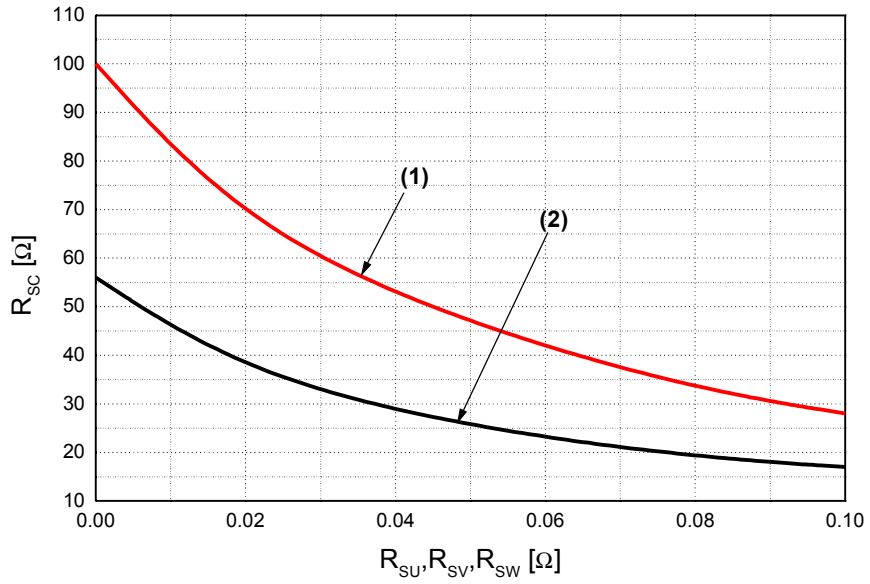

Fig. 7. R_{SC} Variation by change of Shunt Resistors (R_{SU} , R_{SV} , R_{SW}) for Short-Circuit Protection
- Short-circuit current protection is functioning only at the low-sides. It would be recommended that the value of the external sensing resistor (R_{SC}) should be selected around 56 Ω in order to make the SC trip-level of about 22.5A at the shunt resistors (R_{SU}, R_{SV}, R_{SW}) of 0Ω. For the detailed information about the relationship between the external sensing resistor (R_{SC}) and the shunt resistors (R_{SU}, R_{SV}, R_{SW}), please see Fig. 7.